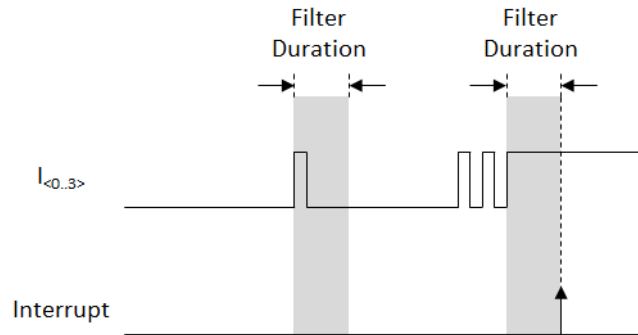

Figure 3.21 Digital Input Filter
The USB-5801 provides 4 channels of digital input (DI) signal measurement with 2,500 V_{DC} galvanic isolation. Figure 3.21 shows the functional block diagram of one digital input channel.
When an external voltage (V_{EX} in Figure 3.21) is applied to the digital input between terminals I<0..3> and EC, the isolator output turns on. On the other hand, when the external voltage is removed, the isolator output turns off. Users will read logic high and logic low for these two circumstances in the software, respectively.